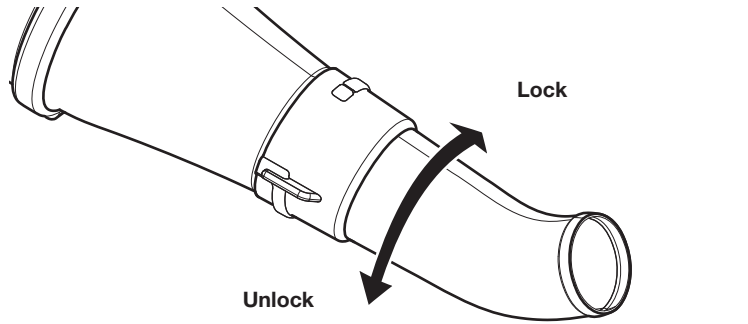

Fig. 2
2. Turn the nozzle clockwise until it locks into place with an audible click (Fig. 2).
1. Turn the nozzle counterclockwise until it unlocks from the blower tube (Fig. 2).
2. Pull the nozzle off of the blower tube (Fig. 2).